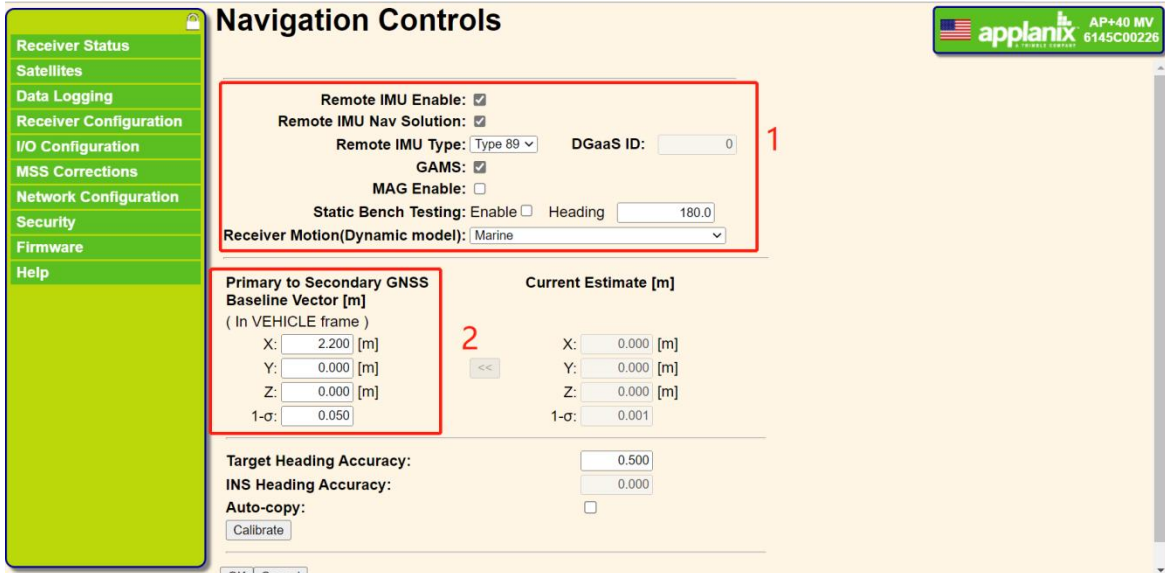

Figure 8.5 Primary to Secondary GNSS Baseline Vector
- 1) Choose to use “Remote IMU Enable” and “Remote IMU Nav Solution”, tick the box after “GAMS”, please refer to the red square 1 as shown in Figure 8.5.